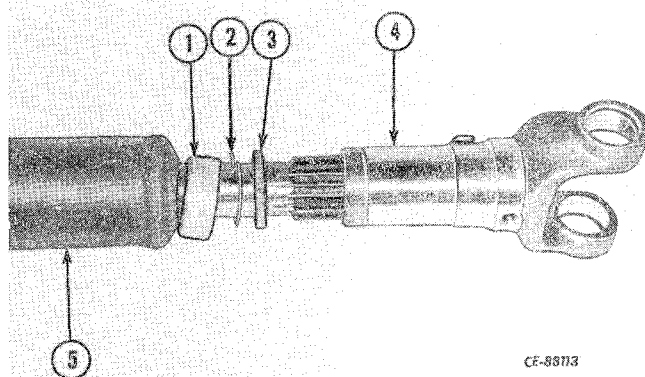

Figure 5-7
Loosen dust cap (1, Fig. 5-7) and separate the shaft halves (4 and 5). Remove steel washer (2) and cork washer (3).
Place dust cap (1, Fig. 5-7), steel washer (2), on cork washer (3) on the splined shaft half (5). Insert splined shaft half into the yoke (4) aligning the mark made at disassembly. Tighten dust cap hand tight.